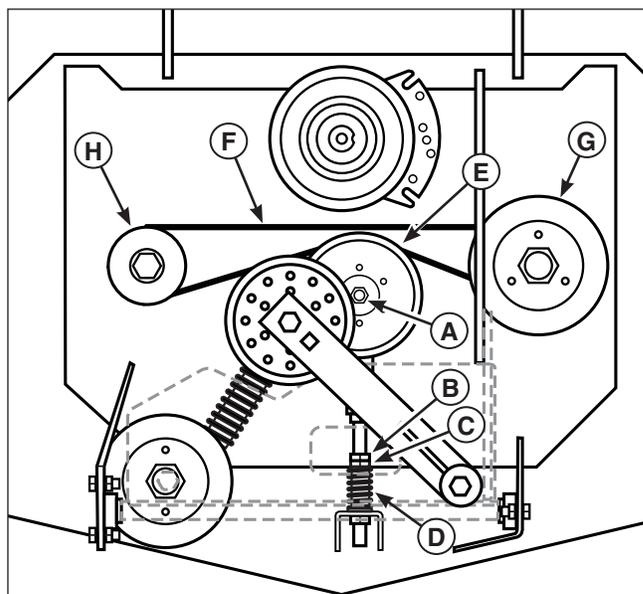

Figure 46. Mower Deck Drive Belt Removal
5. Loosen the idler pulley bolt (**A**, **Figure 46**) 2 full turns. DO NOT remove the nut.
10. Install the belt on the RH sprocket (**H**, **Figure 46**), again making sure the belt is properly seated in the chevron of the sprocket.